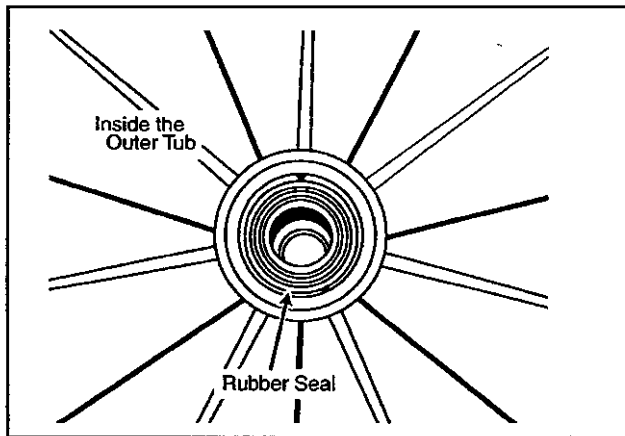

Figure 7-8
7. Remove the shaft seal (*Figure 7-8*).
4. Reach into the inside of the outer tub bearing area and remove the rubber seal. Discard both the steel seal washer and the rubber seal (Figure 7-8).
5. Position the spacer, replacement rubber seal and steel seal washer into the outer tub bearing area (Figure 7-8).